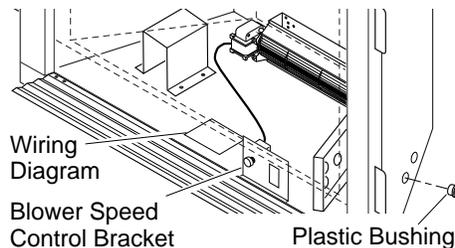

Figure 33 - Installing Plastic Bushing and Wiring Diagram Sticker
- a. **If your fireplace system is installed as a freestanding unit with an accessory mantel**, determine whether the power cord will exit the left side or the right side of the firebox. Install one plastic bushing provided into the 1 1/2" hole in the outer casing through which the power cord will exit. Install the second plastic bushing provided into the floor support bracket if exiting through the right side (see Figure 33). Route power cord through (both) plastic bushing(s) and plug the power cord into a properly grounded 3-prong wall receptacle near the firebox.
10. Peel off the backing paper and stick the supplied wiring diagram decal on the firebox bottom approximately 3" to the right of the blower speed control bracket (Figure 33).